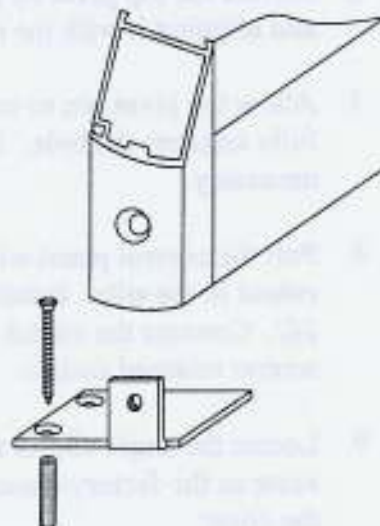

Figure 21
8. Install the floor bracket into the panel with the color coordinated 1/4 - 20 x 1/2 inch screw. Plumb the panel and mark holes on the floor. Drill holes with the masonry bit and fasten the bracket to the floor with plastic anchors and #10 x 1 1/2 inch screws (See Figure 21).